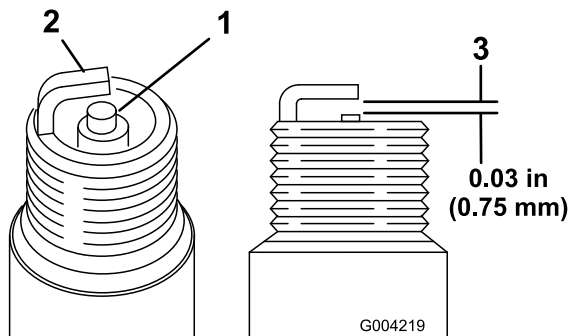

Figure 15
1. Look at the center of the spark plug (Figure 15). If you see light brown or gray on the insulator, the engine is operating properly. A black coating on the insulator usually means that the air cleaner is dirty.
2. Check the gap between the center and side electrodes (Figure 15). Bend the side electrode (Figure 15) if the gap is not correct.